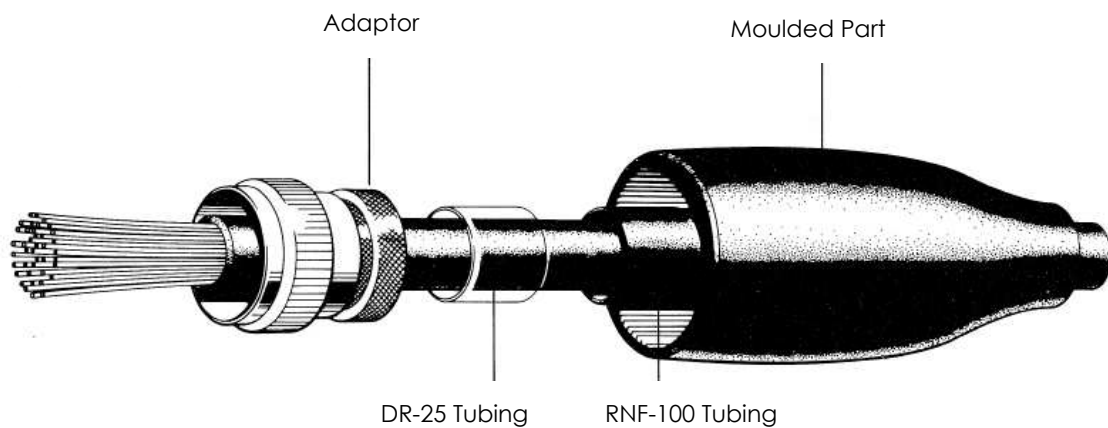

Figure 2 Cable assembly example
- 5.4. Slide onto the cable any marker/protection sleeves, Rayaten Moulded Part, adaptor, DR-25 packing piece and RNF-100 tubing. See Figure 2.